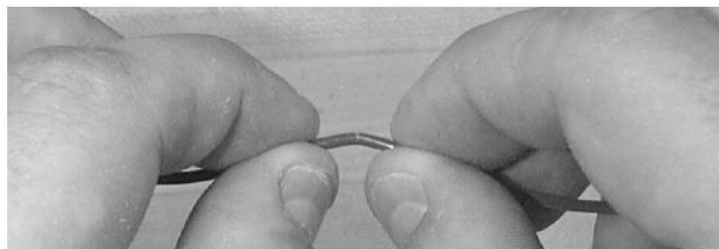

Figure 31 . Separate the buffer tube
5.20 Grasp the tube on both sides of the score mark and gently flex the tube to separate it (Figure 31). Remove the buffer tube to expose the fibres. If a long section of buffer tube must be removed, it is recommended that the tube be removed in several short pieces about 300 mm to 400 mm in length.